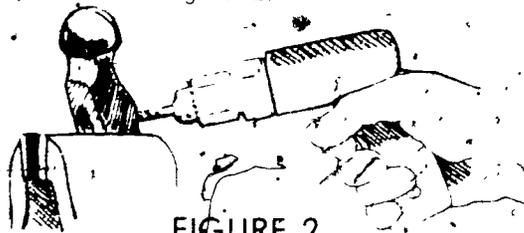

FIGURE 2
- C. Remove the wood from the eye by first drilling with a twist drill and then punching out the remainder (Figure 2)